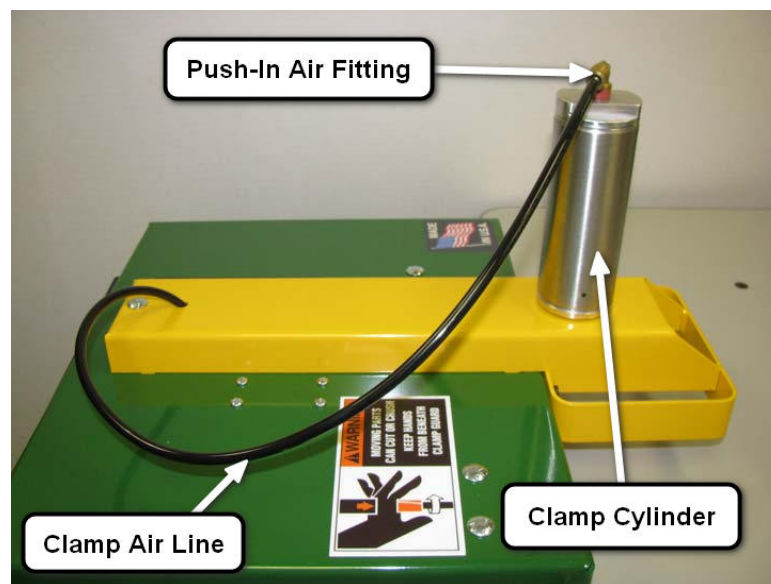
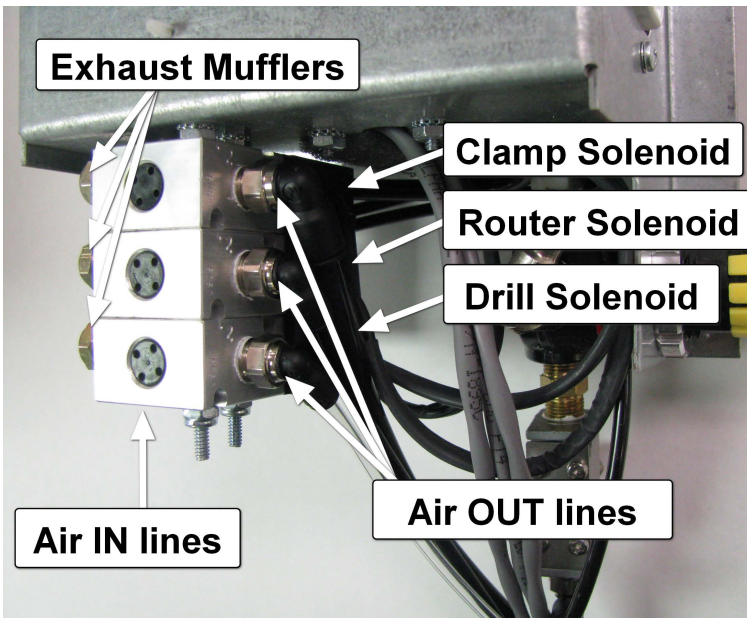
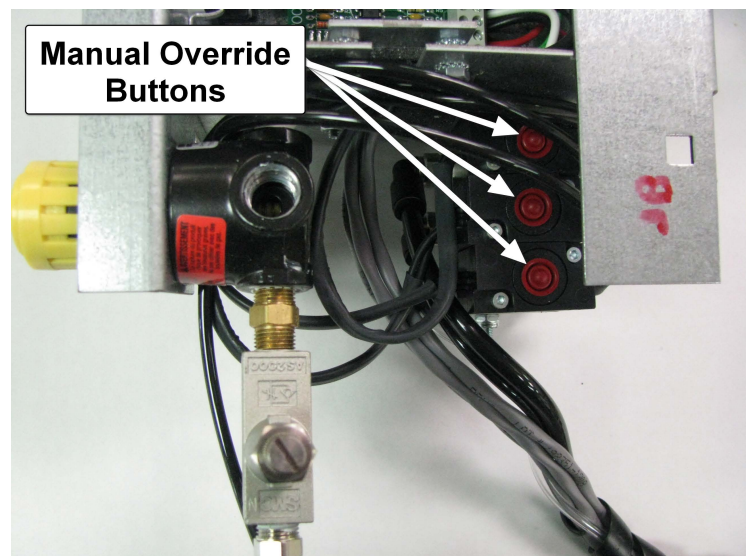

Fig 3a
Fig 3b
Fig 3c
2. Remove the air line from the clamp cylinder Push-In fitting (**see Fig 3a**). From the rear access door, locate the clamp solenoid. Remove the exhaust muffler from the clamp solenoid (**See Fig 3b**) and press the override button for several seconds to flush the solenoid. Air should flow through the air line. Press the override switch several more times for several seconds to thoroughly flush the solenoid. **See Fig 3c**